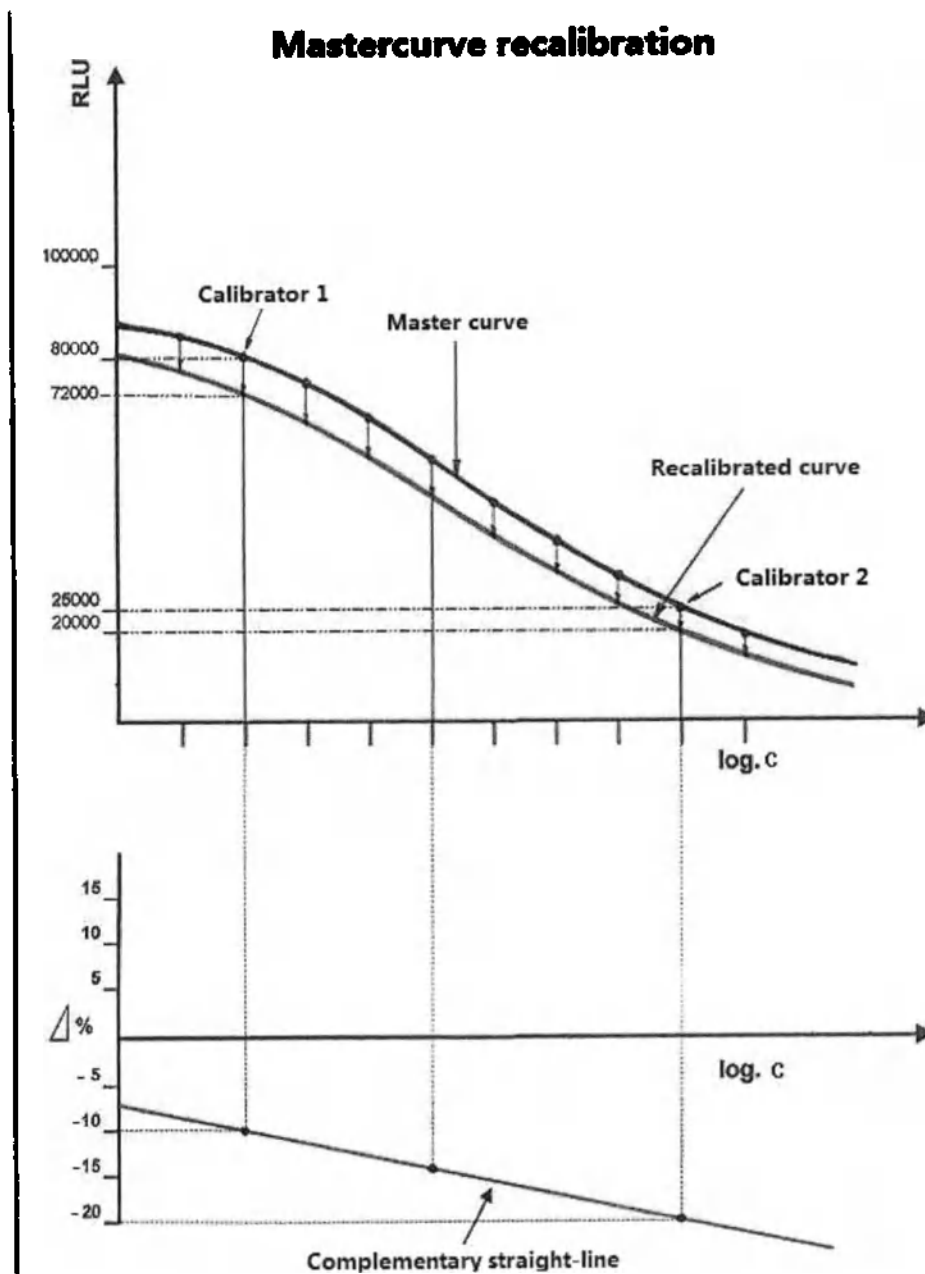

Fig. 1.3-1. The principle of calibration
- The recalculated curve is used as a valid working curve (see Fig. 1.3-1. "The principle of calibration").